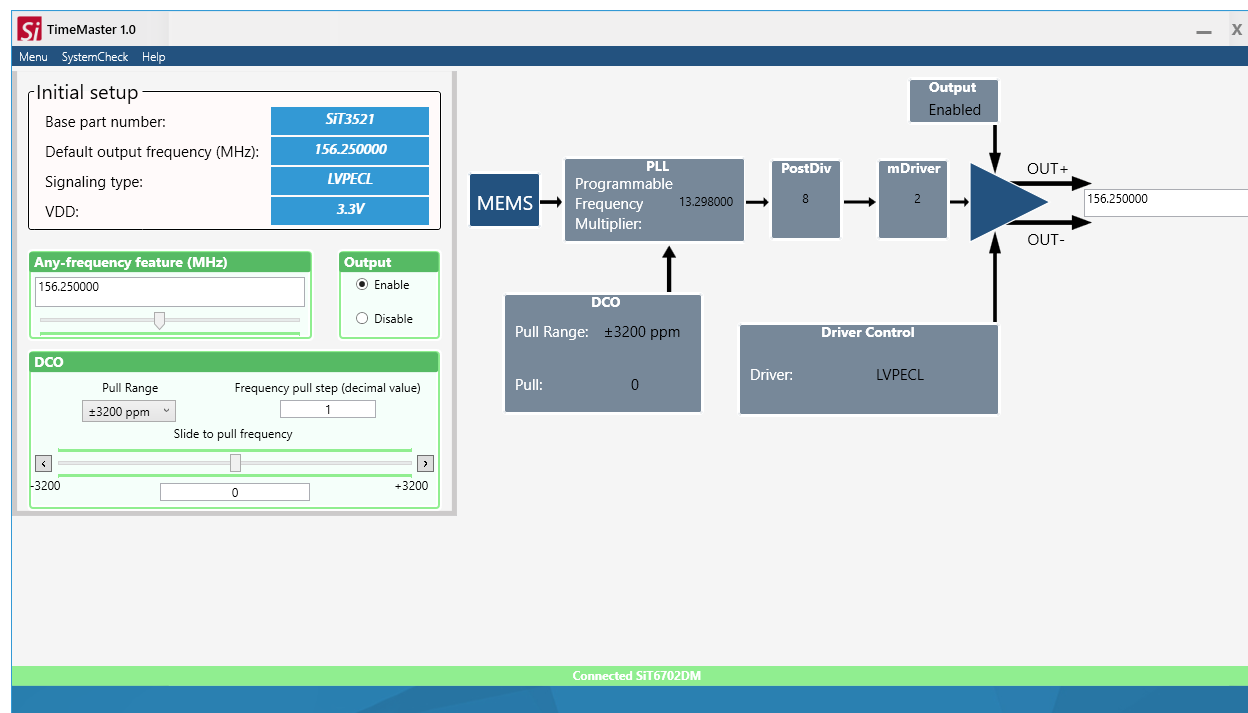
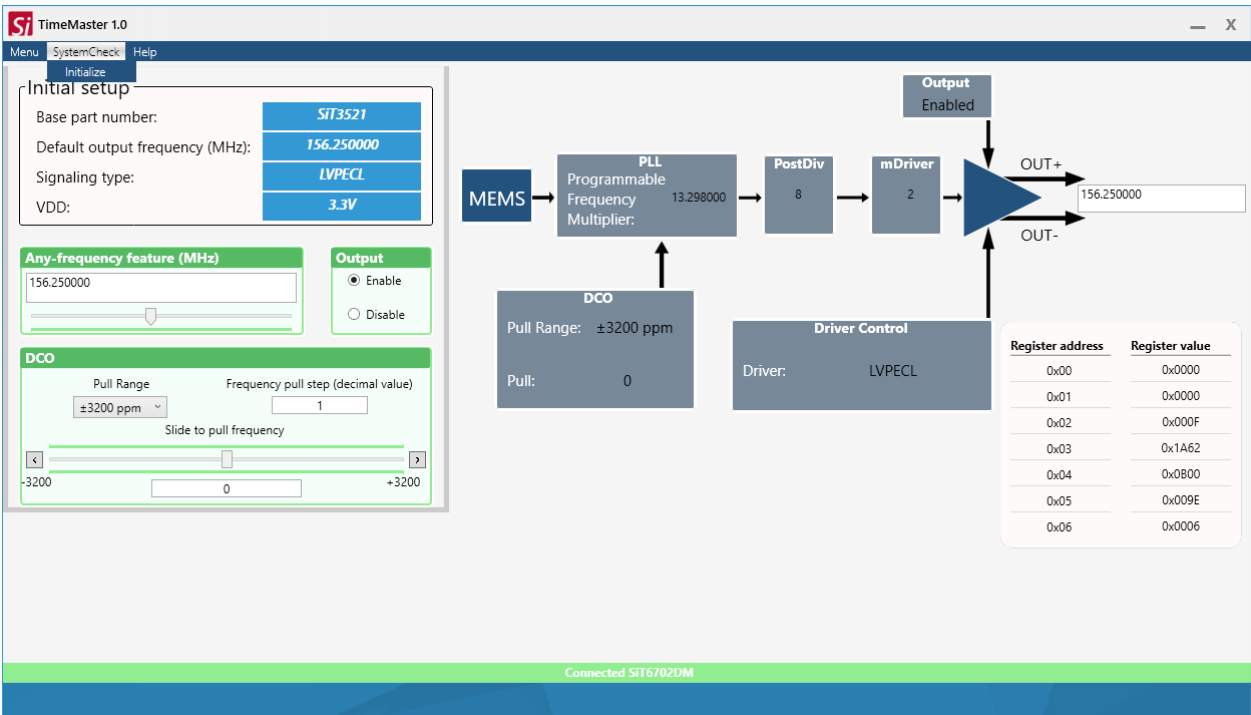

Figure 7: Startup GUI appearance when board is connected, SiT6712EB with SiT3521 device example
Figure 8: Startup GUI appearance when board is connected, SiT6712EB with SiT3521 device example, register content viewer enabled
2. **Start with the board connected to the PC.** The software will ask the user to enter device options on startup (see Figure 7 and Figure 8). A similar window is shown for the previous case after the board is connected and system initialization is launched.
Once all options are selected, the GUI will start the main window showing the board connection status (see Figure 7). The main GUI shows a simplified block diagram of the device with DCO and output enable blocks accessible to the user. Frequency and pull range values are displayed on the startup window and represent the current state of the DUT.